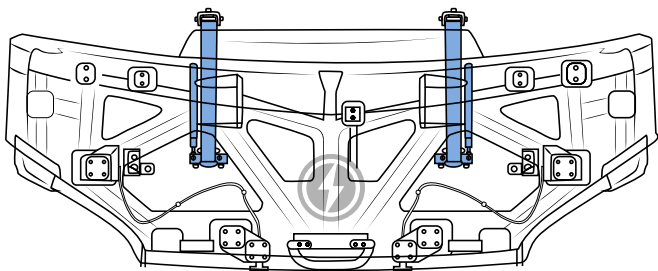

Figure 16 - Location of hood safety mechanism
5. Push on both arms of the safety mechanism to lock the hood in the open position (**Figure 16**).